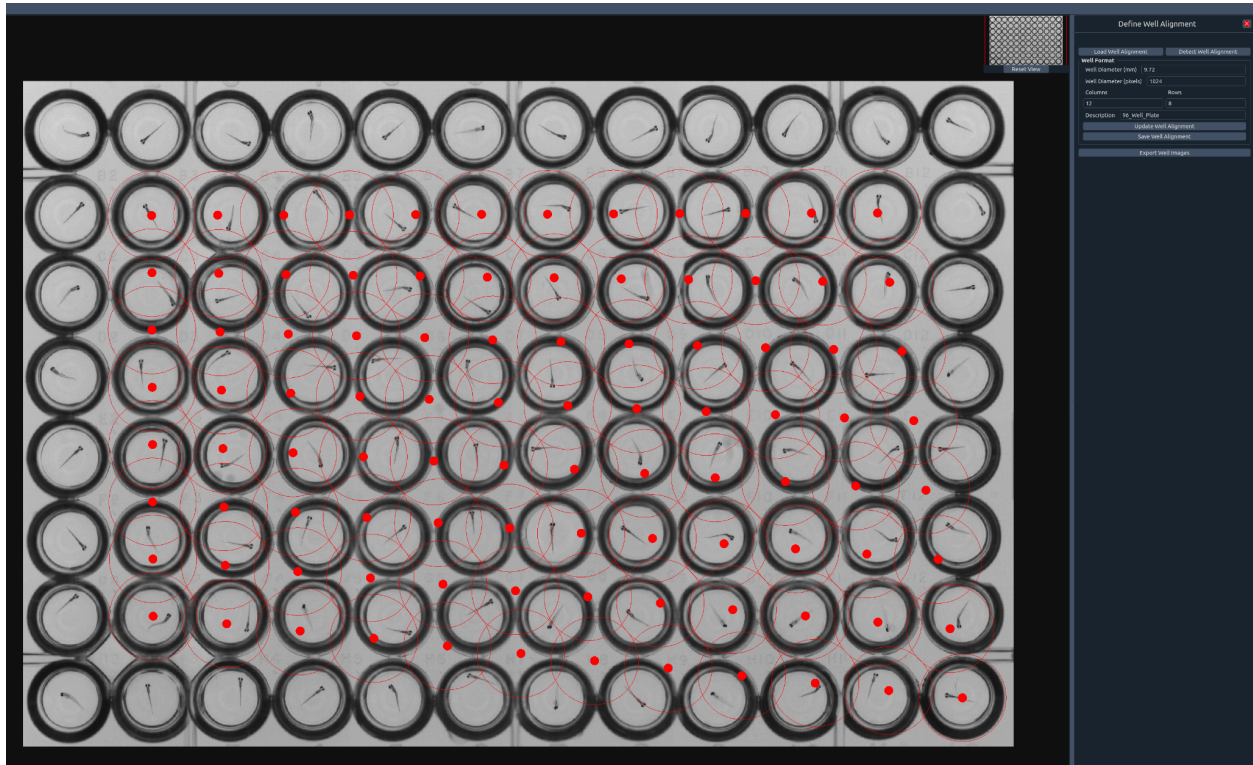

Fig 31: Well Alignment initial guess.
- 4) When initially detecting well keypoints it is likely this step will fail as shown below with circle indicators not lining up with wells. This is expected (Fig 31).